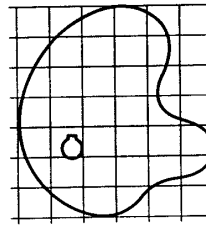

FIGURE 2.39 ■ Step 2, evenly spaced grid.
- Step 2. Draw several equally spaced horizontal and vertical lines as shown in Figure 2.39. If you are sketching an object already drawn, just draw your reference lines on top of the object's lines to establish a frame of reference. If you are sketching an object directly, you have to visualize these reference lines on the object you sketch.